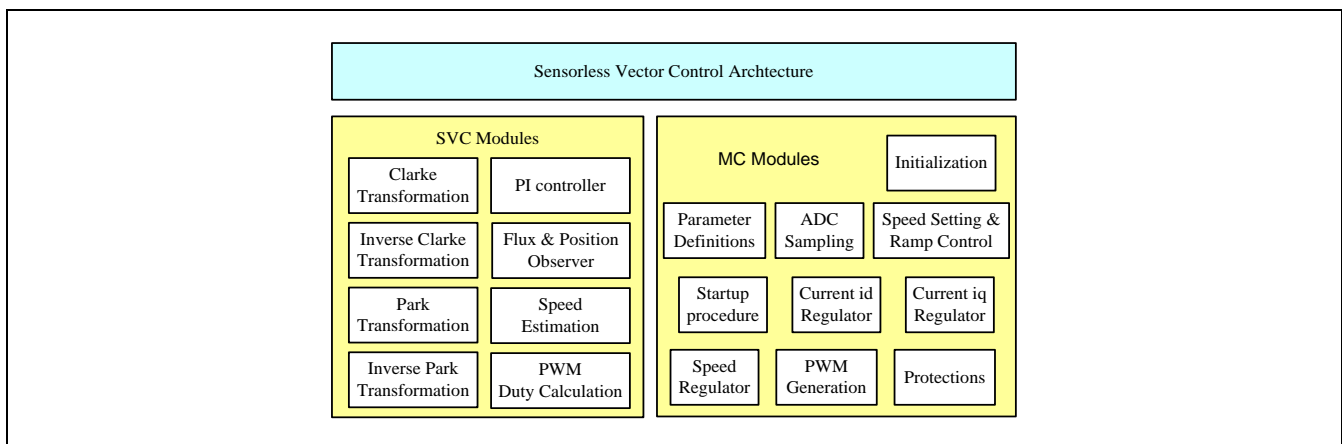

Figure 6 Software architecture of RX111 SVC
- ❖ The software is modularized according to the SVC block diagram (as shown in *Figure 6*);
RX111 SVC algorithm is implemented with the complete C code in the standard modules. The overall software architecture is shown in *Figure 6*.